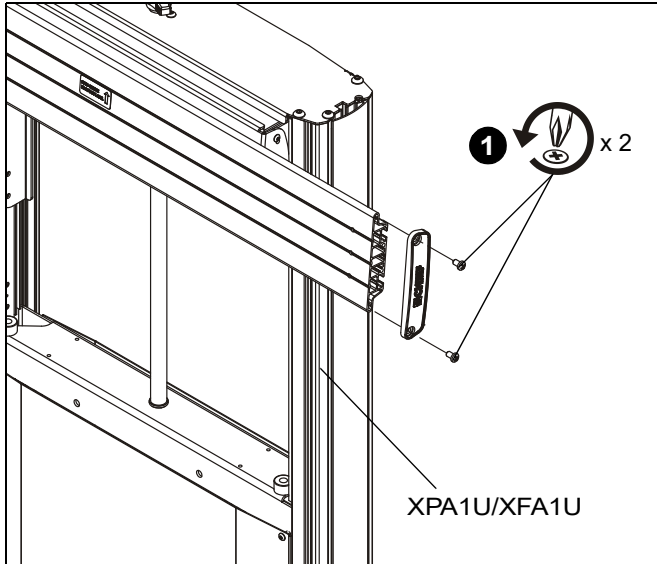

Figure 1
1. Remove two Phillips screws and right side cover from right side of XPA1U/XFA1U interface head assembly. (See Figure 1)